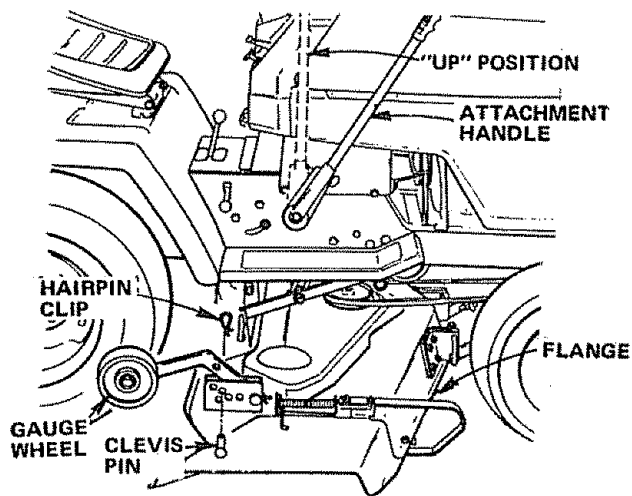
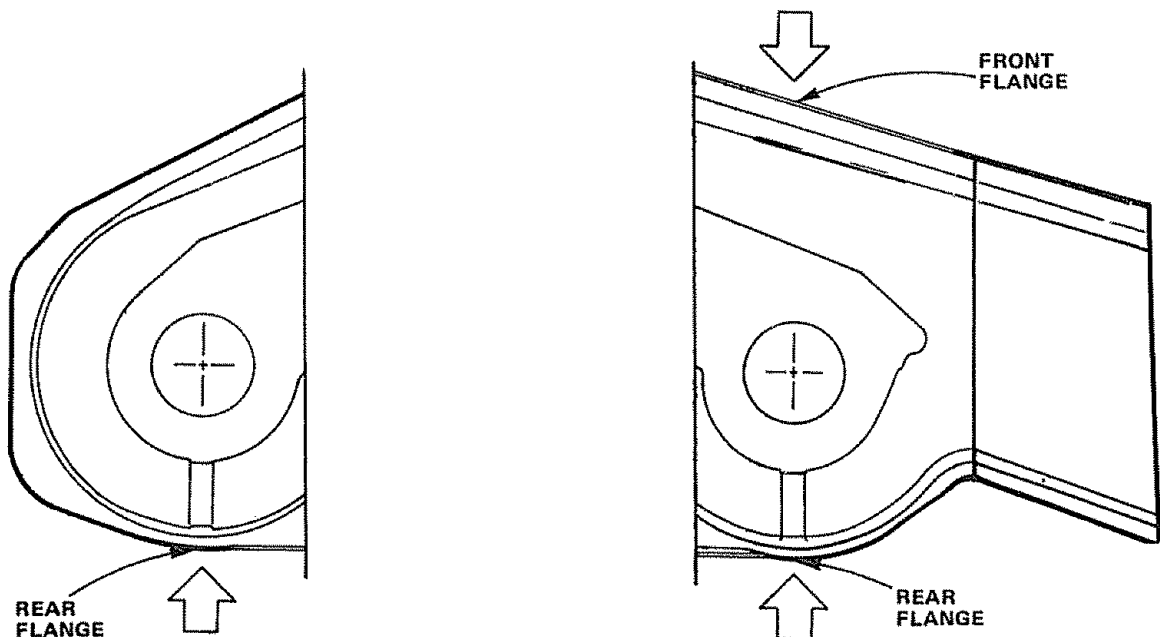

FIGURE 17
FIGURE 19
1. Use a ruler to make sure Flanges at rear of mower deck are the same height from the ground on each side (Fig. 19).
3. Move Attachment Handle to full "UP" position (Fig. 17).
Move Attachment Handle to full "UP" position (Fig. 17). After leveling side to side, measure R.H. Flanges at FRONT AND REAR OF MOWER. The R.H. Front Flange should measure 3/4" lower than the R.H. Rear Flange (Fig. 19). If adjustment is required, follow procedure below.
3. With mower deck at desired height, set Gauge Wheels (Fig. 17) to lowest position without touching the ground.
Use Adjustment Handle to set mower at the approximate cutting height you need. Use Clevis Pins (Fig. 17) to set gauge wheels at lowest point without touching the ground.